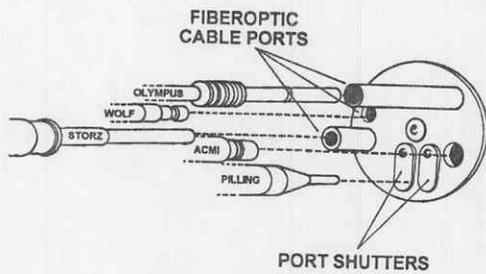

Figure 1-4. Multiport faceplate.
c. *Multiport faceplate (fig 1-4).* Each of the two rotary multiport faceplates aligns the five types of fiberoptic cable connector ports with the endoscopic instrument light output.